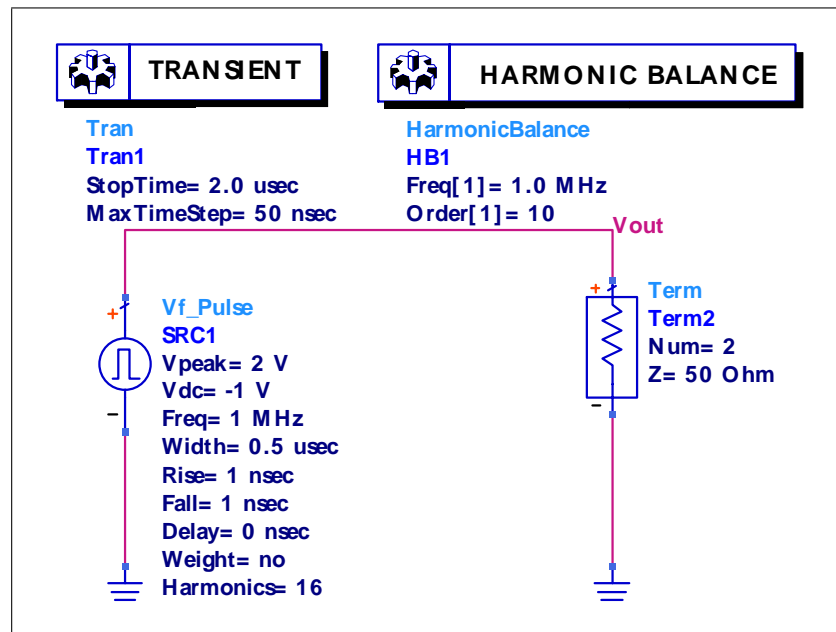

Figure 18 Simulation of squarewave in frequency domain
1. Simulate a 1MHz squarewave, see Figure 18